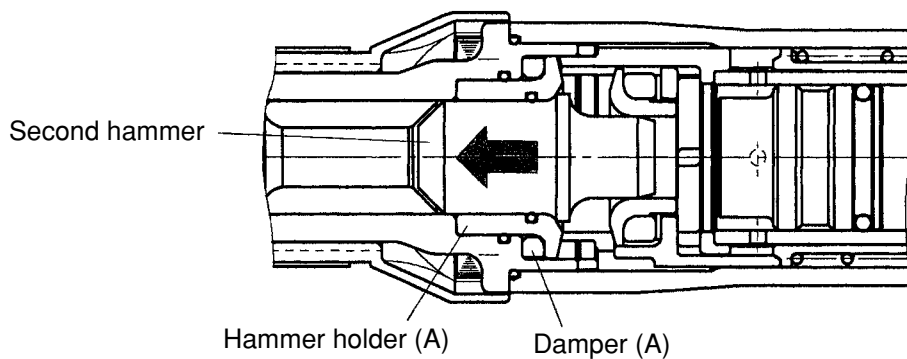

Fig. 6
At the instance of releasing the bull point from the concrete by moving the main body up, the second hammer contacts hammer holder (A) as shown in Fig. 6 then the cushion (damper (A)) provided between hammer holder (A) and the front cover absorbs the striking force of the second hammer. Thus the durability of the Model H 45SR is increased greatly because the second hammer does not strike the tool retainer directly.